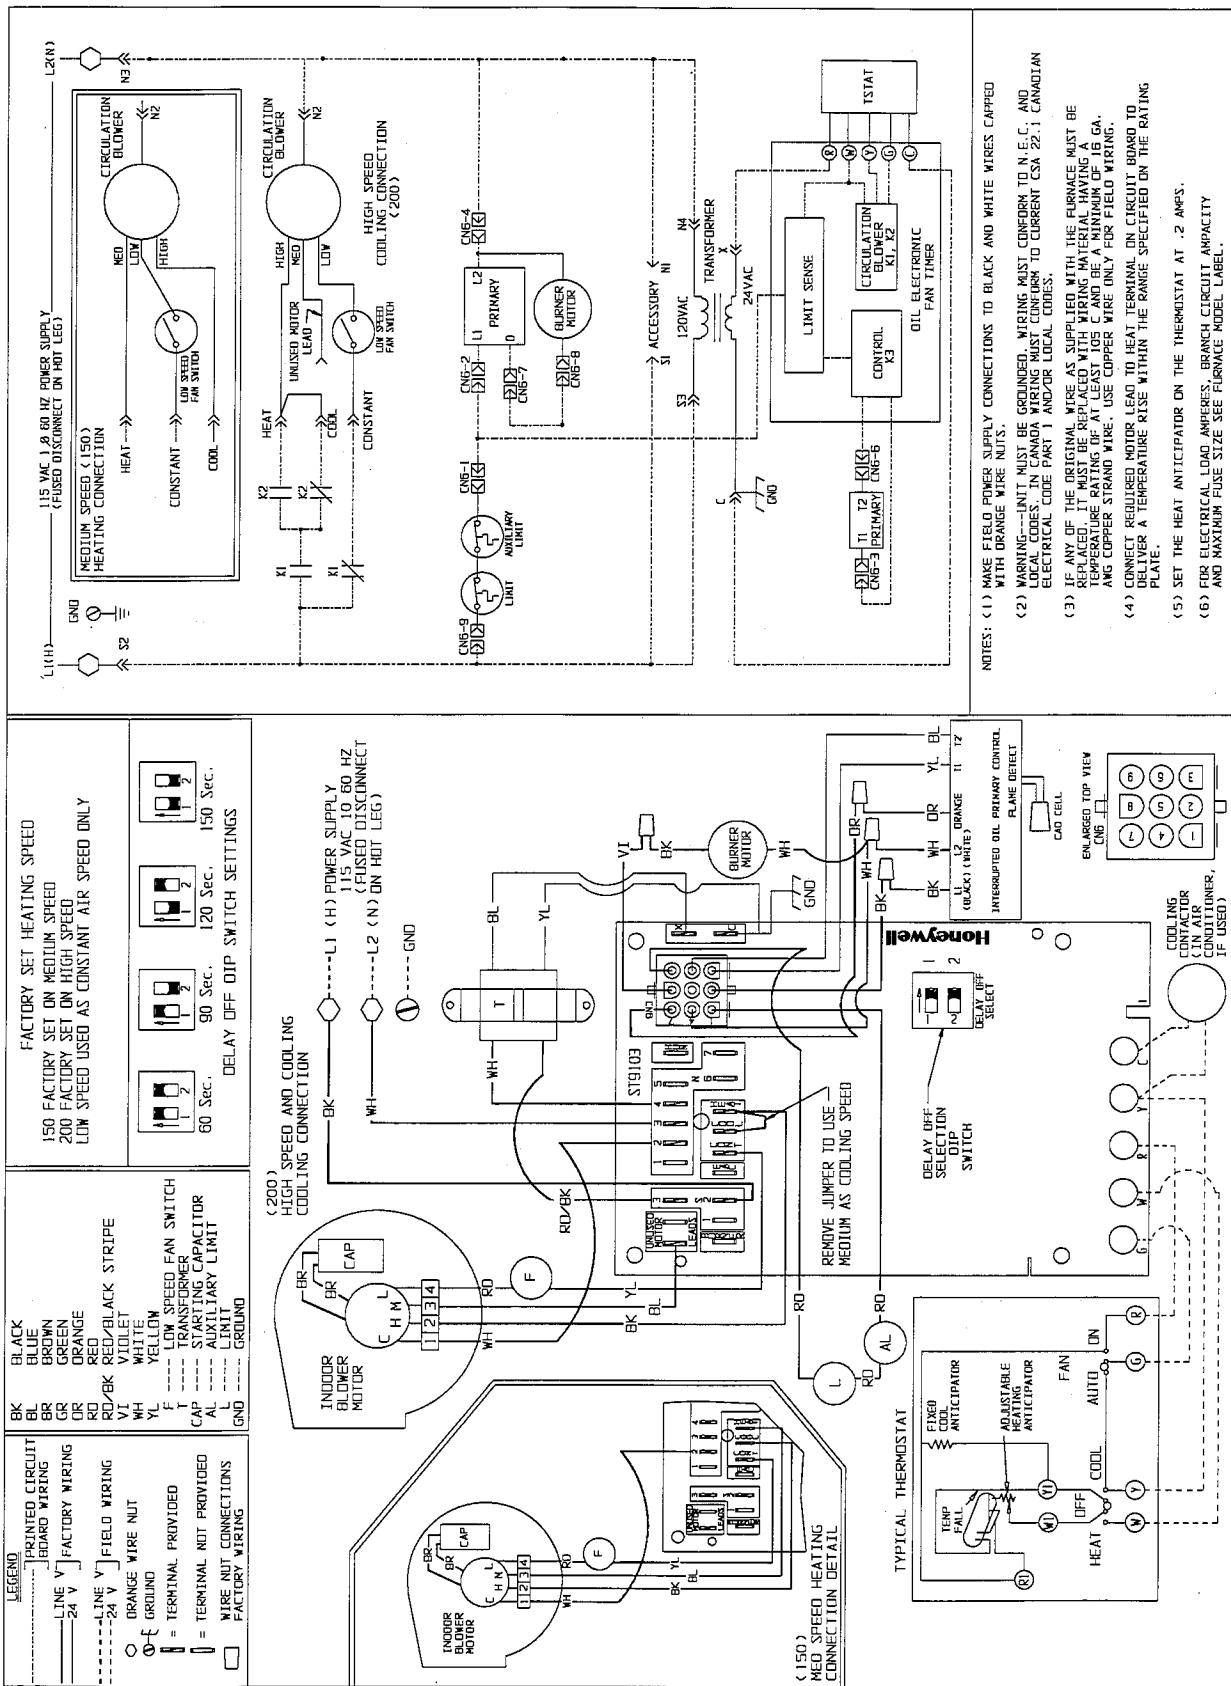

Figure 10
9. Reverse the above steps to reinstall the blower. (Refer to wiring diagram Figure 10 of this instruction or the diagram located on the inside of the door to properly rewire the unit.)